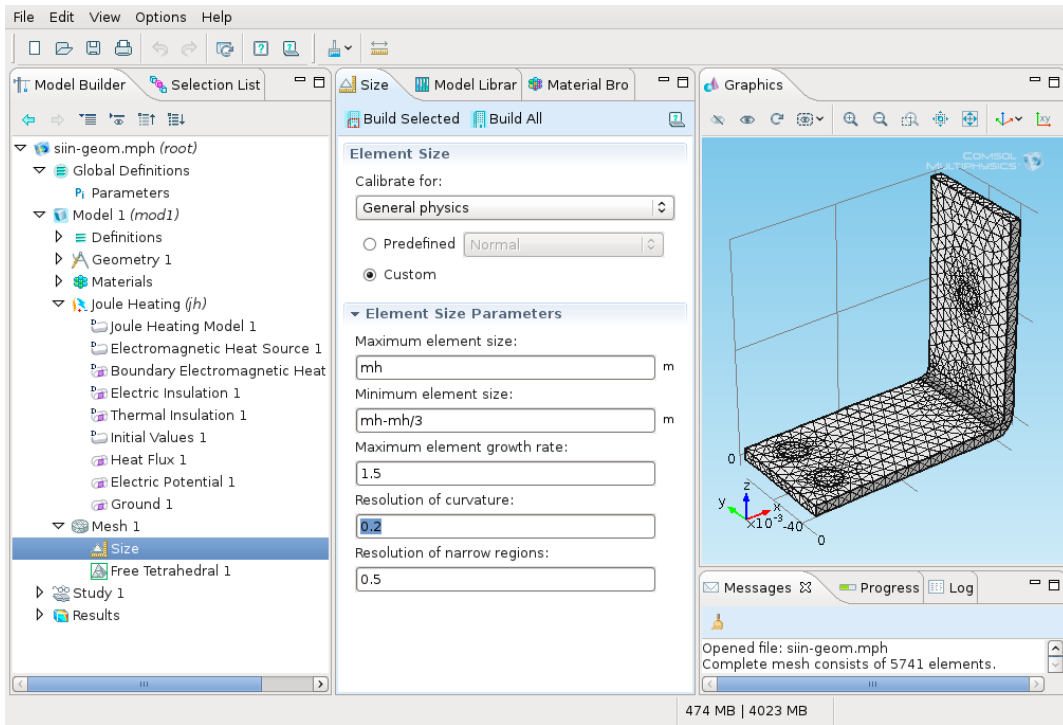

Figure 36: Changing the mesh settings.
- 3 Click the *Custom* button under the *Element Size* in the *Size* parameters window (Fig. 36).